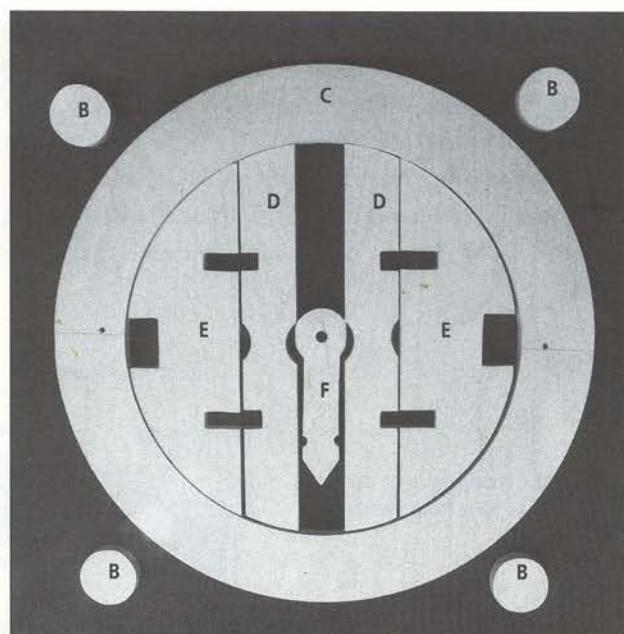

Fig 5.3 Parts B, C, D, E, and F sawn from the second ply square.
Fig 5.3 shows all the parts you will be cutting from the second of the three squares of plywood: the outer ring (C), the parts for the stand (two parts each labelled D and E), the four $1\frac{3}{8}\text{in}$ (35mm) discs (B, again) and part F.